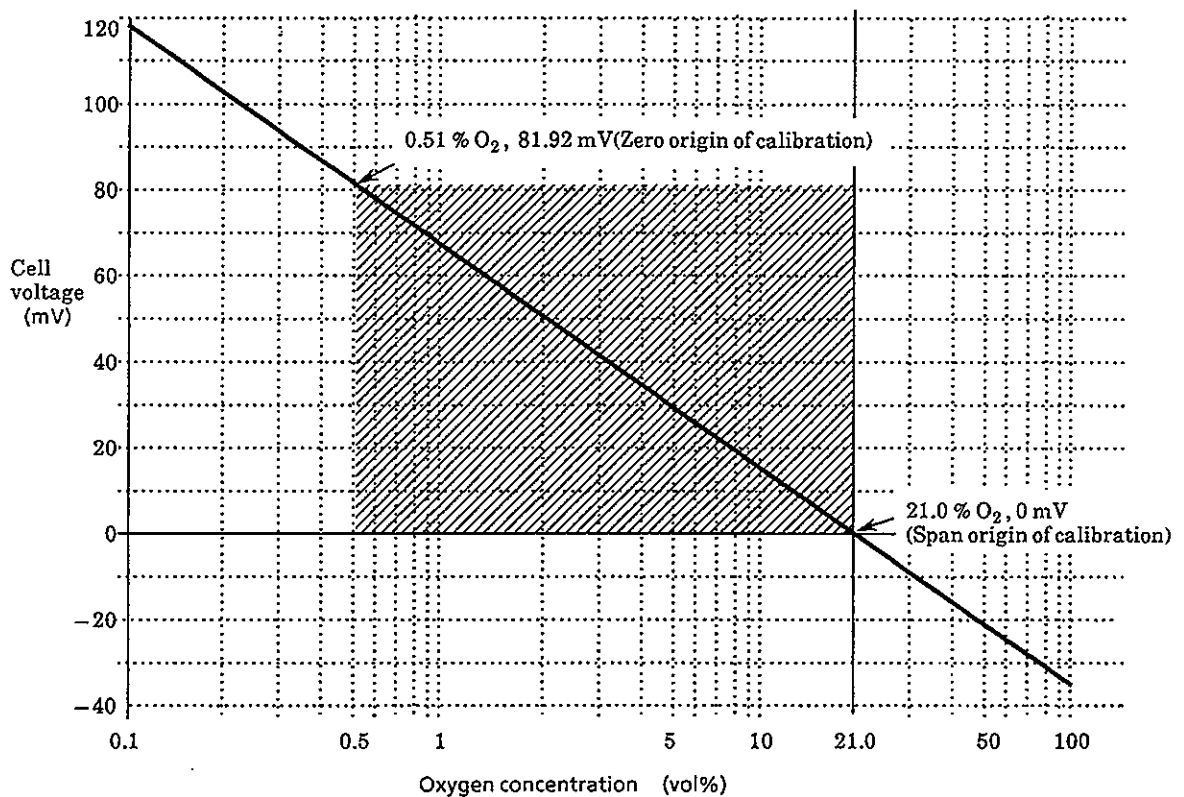

Figure 9.1 Oxygen Concentration in a Measurement Gas vs. Cell Voltage (21.0 % O2 Equivalent)
With this analyzer, the sensor (zirconia element) is heated up to 750°C, so the relationship of equation (2) remains valid. At that time, a relationship, as in Figure 9.1, is effected between the oxygen concentration of the measurement gas in contact with the positive electrode and the electromotive force of the sensor (= cell), where a comparison gas of air is used on the negative electrode side.